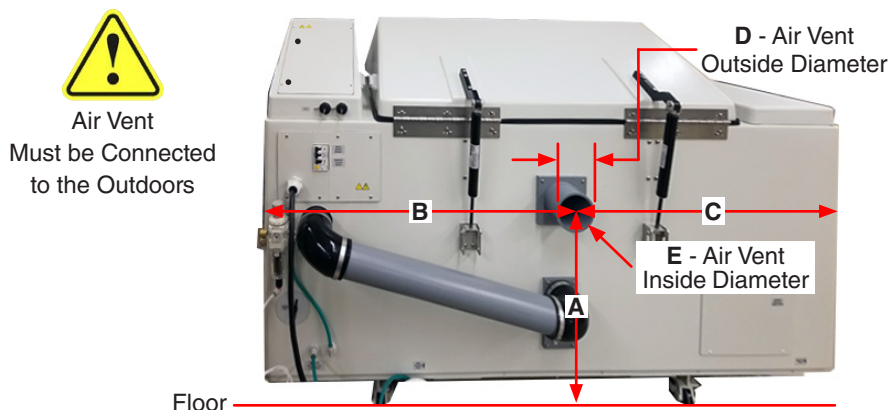

Figure 5.9a: Vent location.
- Air venting from the chamber is done via a 114 mm (4.5 ") outside diameter vent tube (Figure 5.9a).